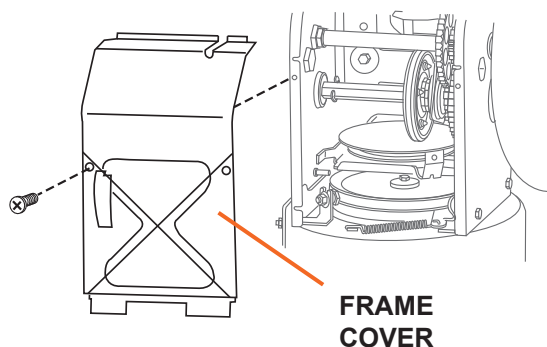

Figure 23
2. Carefully pivot the snow blower up and forward so that it rests on the auger housing. Remove the frame cover from the underside of the snow blower by removing four self-tapping screws which secure it (see Figure 23).